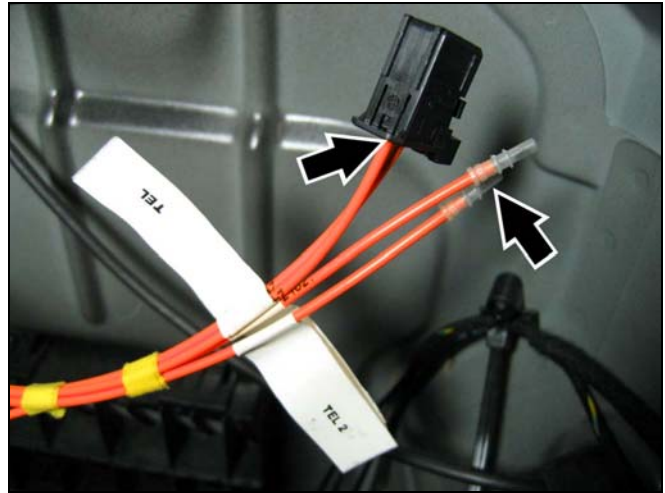

Figure 12
3. At the telephone control module (Figure 12) in the right well of the trunk, configure the MOST ring according to Figure 39.